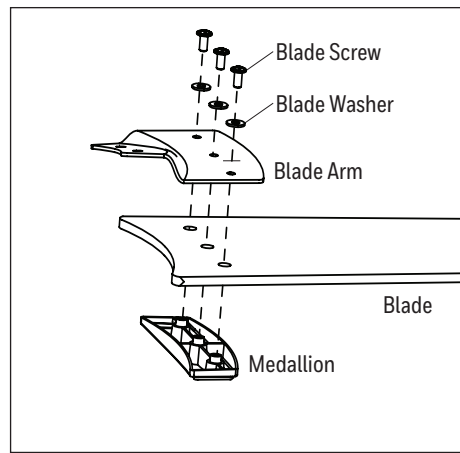

Figure 5.4
4. Partially insert three blade screws along with blade washers through the blade, blade arm, and into the medallion. Tighten each blade screw starting with the one in the middle. Repeat this step for the remaining blades. Note: Ensure the concave edge of the medallion is parallel to the concave edge of the blade (Figure 5.4).